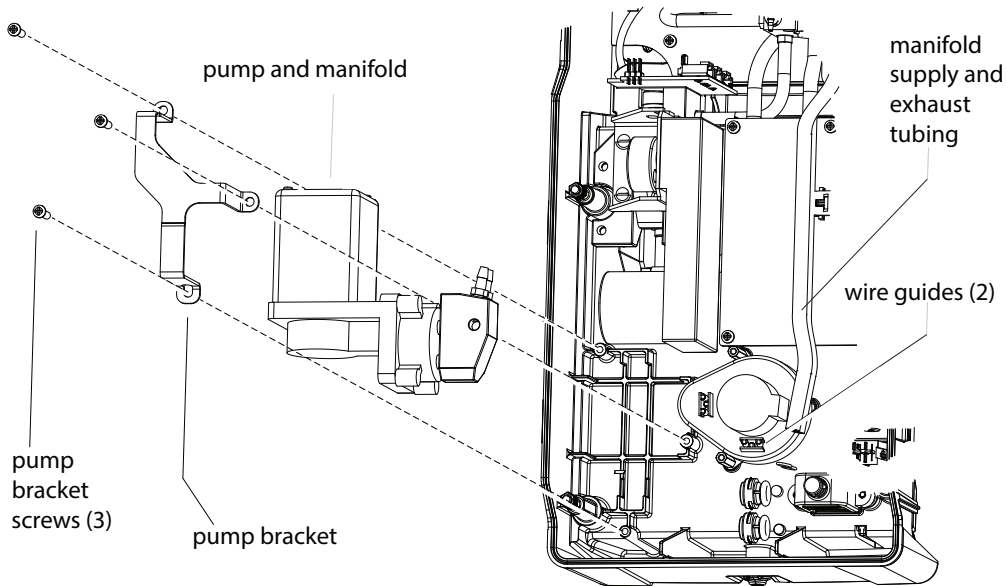

Figure 32. Pump assembly (detail, shown without wires for clarity)
9. Separate the pump manifold from the pump. Disconnect the two push fittings by gently twisting the jeweler's screwdriver as shown in Figure 32.